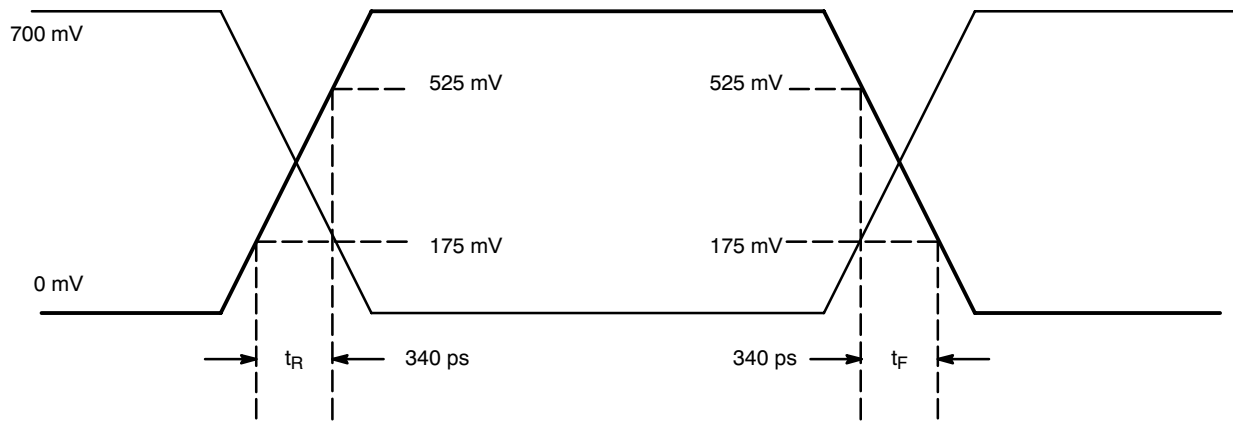

Figure 4. HCSL Output Parameter Characteristics
- Measurement taken with outputs terminated with R_S = 33.2 Ω, R_L = 49.9 Ω, C_L = 2 pF and current biasing resistor set at 475 Ω. See Figure 4.
- Measurement taken from differential output on single-ended channel terminated with $R_S = 33.2 \Omega$, $R_L = 49.9 \Omega$, $C_L = 2 \text{ pF}$ and current biasing resistor set at 475Ω . See Figure 4.